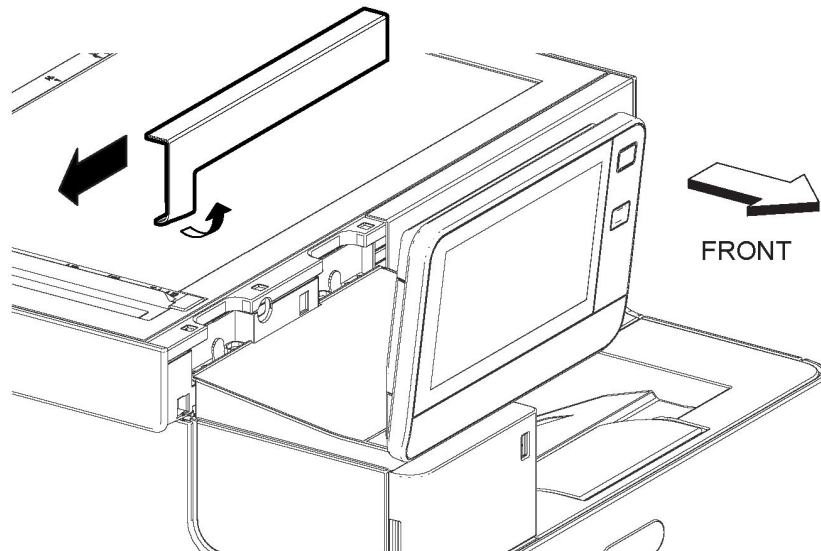

Figure 1 Remove the Front IIT Cover
1. Refer to Figure 1, release the hook and remove the front IIT cover.